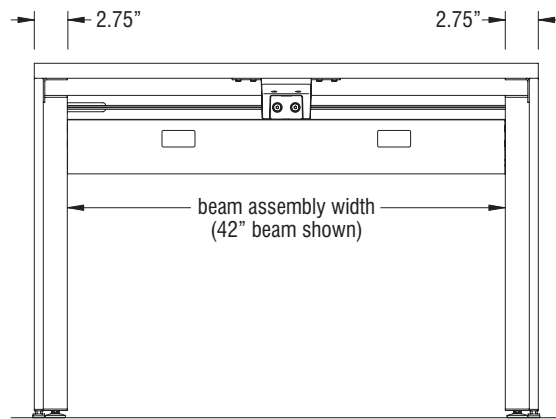

Figure 7
- Beam assemblies of the panel rail system are specified in nominal 6" increments (from 24" to 84" wide) and may be specified as standalone, end, or middle (overall dimensions vary due to leg placement). Panel end legs add 1½" (¾" per leg) to overall panel rail assembly length (Figure 7).